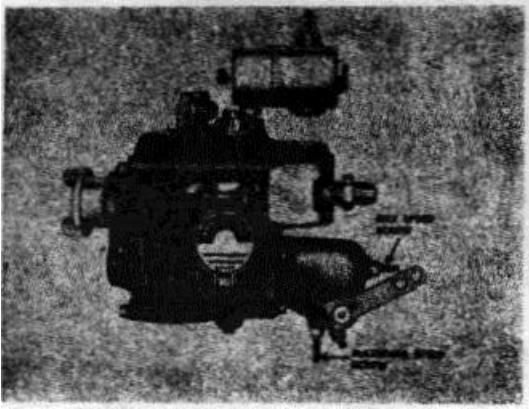

Figure 3-5. Adjusting screws, variable speed governor
2. Screw adjusting screw in or out to get speeds required. Fig. 3-5.